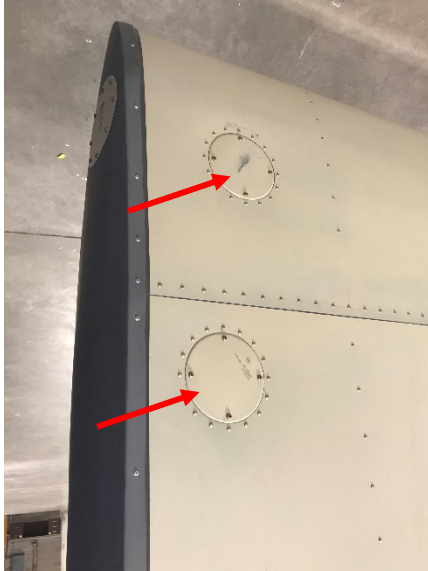

Figure 47-1
2. Remove the inspection plates and wingtip NAV light plate shown in Figure 47-1 and 47-2.